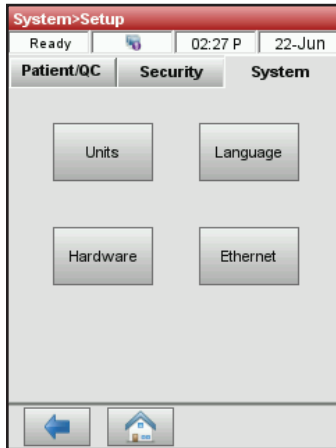

Figure 23. System Manager> Setup screen
- From the Setup screen, tap the **System** tab and then tap **Units** (figure 23).